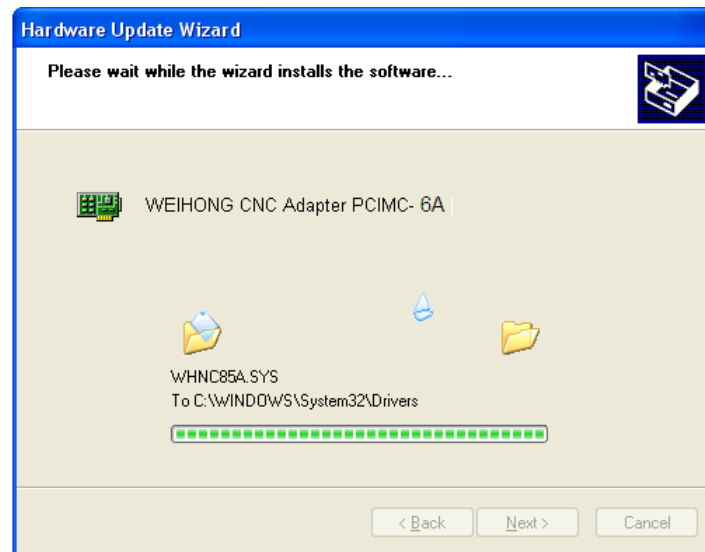

Fig. 2-7 Updating the driver
- 8) Click [OK] to go back, and then click [Next] to start updating the driver software. The progressing picture is shown as Fig. 2-7.